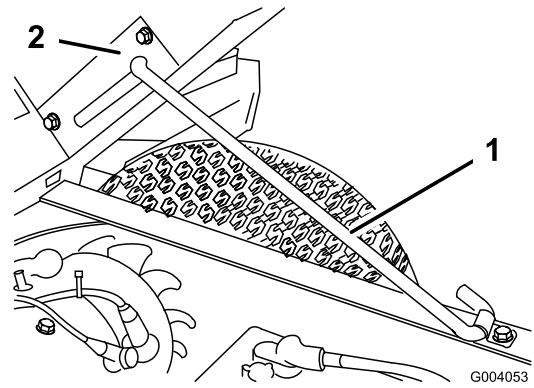

Figure 18
2. Pull the prop rod into the detent slot, securing the box (Figure 18).